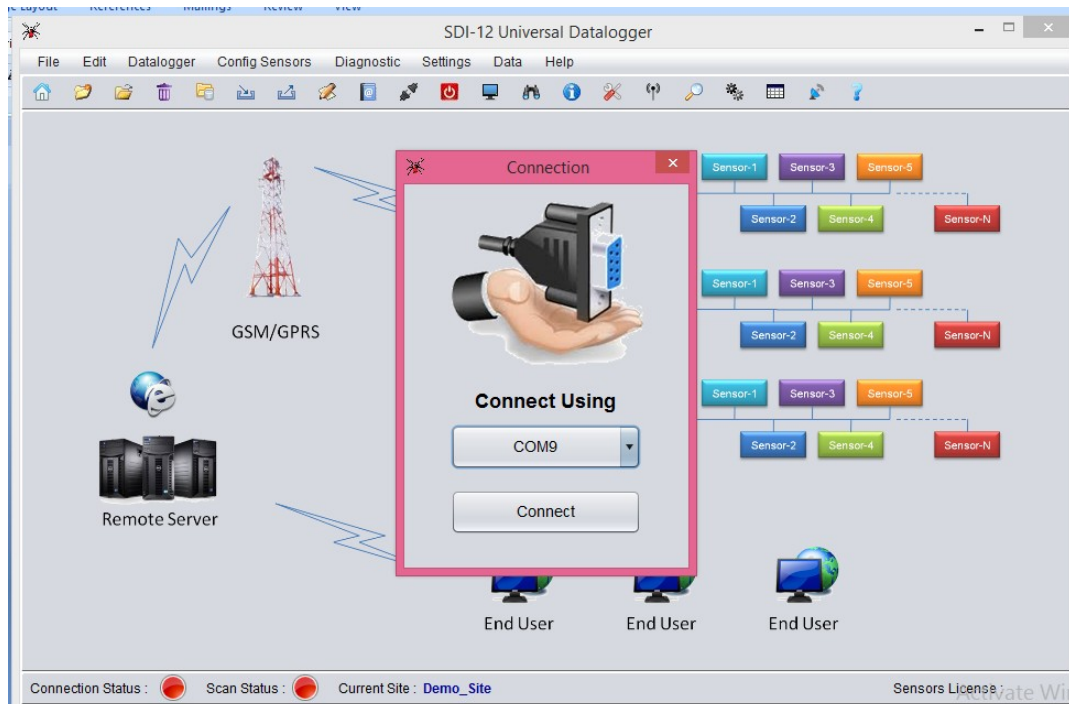

Figure 20 Datalogger connection window of EDSL-30UNI Configuration Manger Software
- 4 After clicking “Connect/Disconnect Datalogger”, a “Connection” window will appear as shown below. Select the usable “Com port” and then click “Connect” (figure 20).